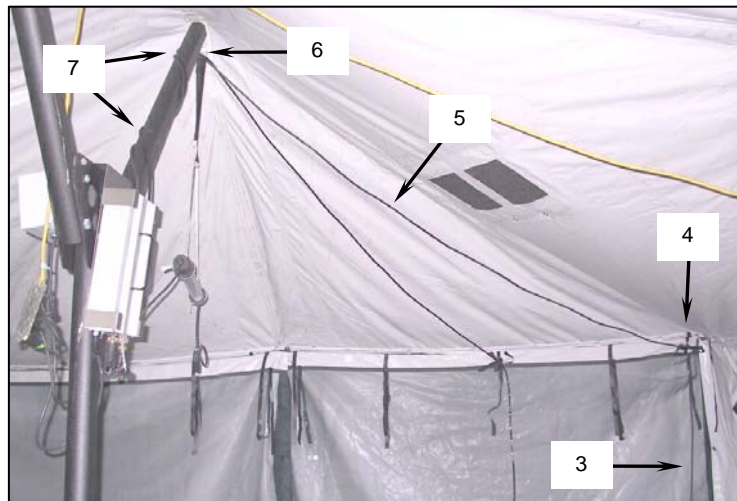

Figure 21. Grease Separator Power Cable Installation.
- i. Connect the grease separator power cable (**Figure 21, Item 1**) to the grease separator electrical connector (**Figure 21, Item 2**).
- j. Run the grease separator power cable up the corner of the tent (**Figure 21, Item 3**).
- k. Secure the grease separator power cable with the corner tent strap (**Figure 21, Item 4**).
- l. Run the grease separator power cable across the tent ceiling (**Figure 21, Item 5**) and through the same D-ring (**Figure 21, Item 6**) through which the 25-ft DC cable is strung.
- m. Wrap the grease separator power cable around the "Y" arm of the tent center pole (**Figure 21, Item 7**).